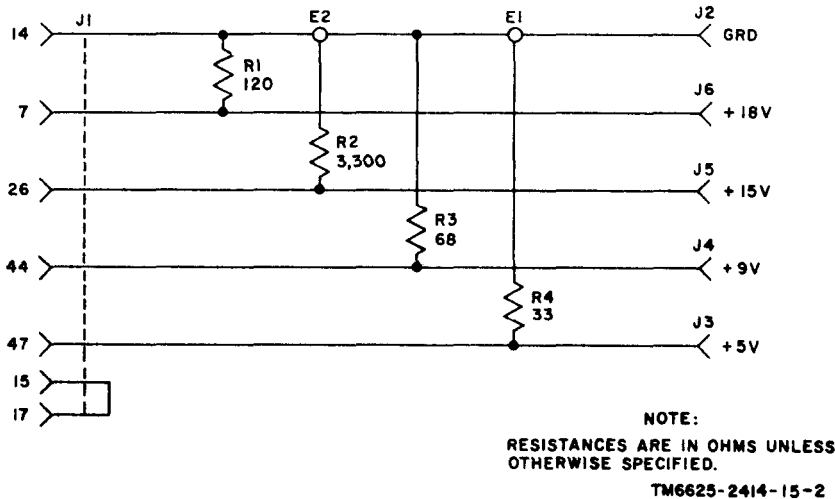

Figure 3-1. Power Supply Termination (AN/ARC-114), schematic diagram.
b. The exceptions are adapter terminations for the power supply, headset, microphone, and breakout box SM-B-625701 (J29-17 to J26-17), breakout box SM-B-625706 (J8-39, 40 to J12-39, 40), and breakout box SM-B-625711 (J19-1 to J20-1). In the case of the adapters, refer to figures 3-1 through 3-6 for resistance values.
e. Replace Resistors. Resistance values of terminations are given in the schematics, figures 3-1 through 3-5. Defective resistors are replaced by standard procedures.